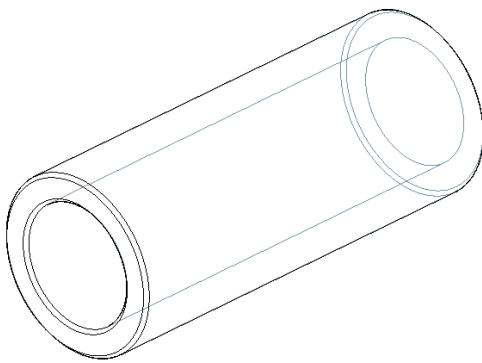

Figure 13: Mounting device for counter-rings
- 7) Auxiliary mounting devices, see figures 13 and 14 with hex screw M10x20